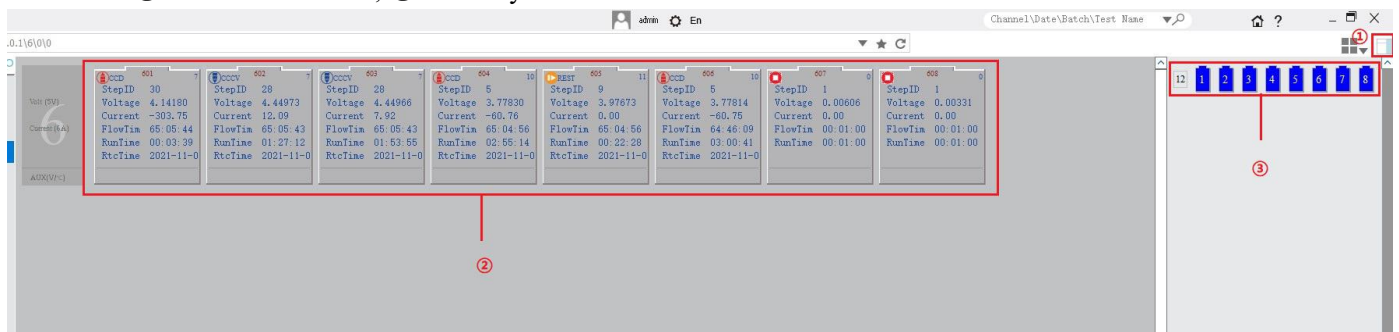

Figure 4-57 Main channels display
The auxiliary channel show/hide button is located in the right-most "sidebar" (①) in the toolbar, as shown in Figure 4-57. ② Main channel area, ③ auxiliary channel areas.